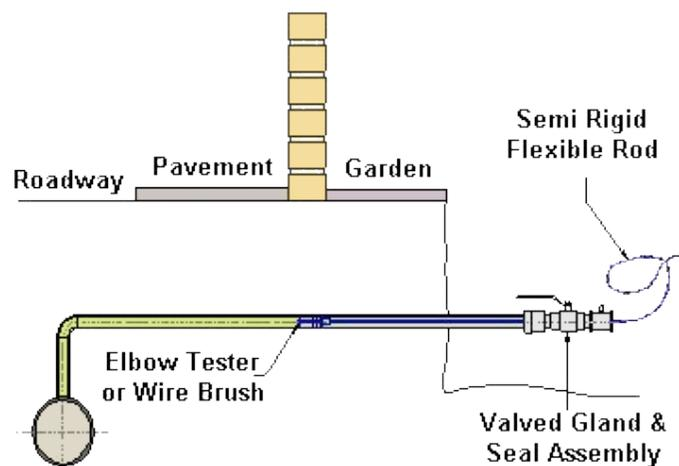

Figure 48 - Checking proposed length of LSI and cleaning steel service
- Mark indicated service length on flexible rod with tape and withdraw through valve (Figure 48 - Checking proposed length of LSI and cleaning steel service).
- Confirm that the marked length is comparable to the indicated mains position identified earlier (item 11 above).